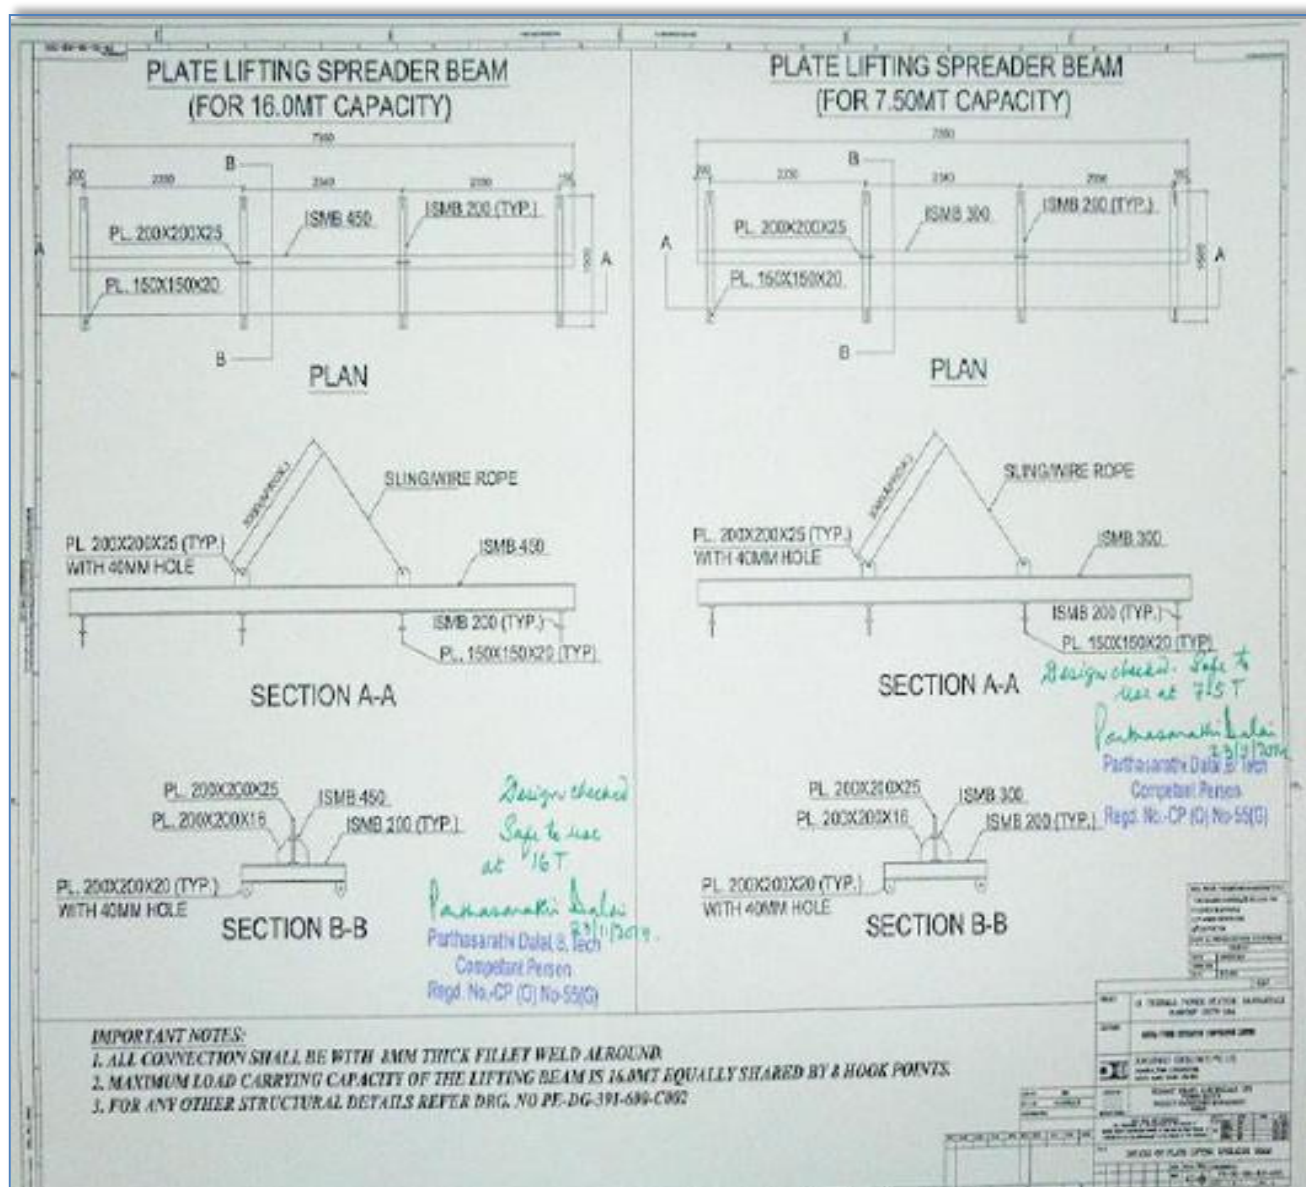

Fig. 13.2.4.3 Typical Plate Lifting Spreader Beam Configuration for 7.5 MT and 15 MT Loads
- Only BHEL Approved Plate Lifting Spreader Beam configuration shall be used (Sample in Fig. 13.2.4.2)